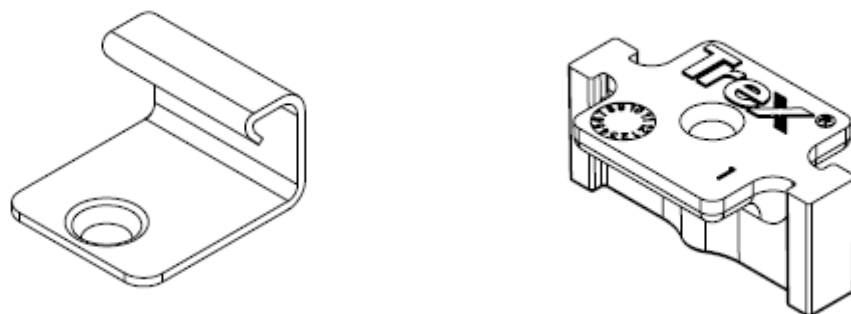

FIGURE 3 – START CLIP (LEFT) AND TREX HIDEAWAY FASTENER (RIGHT) FOR GROOVED EDGE DECK BOARDS
5.4 The grooved edge decking shall be attached at each joist, regardless of joist spacing with the Trex® Hideaway® Universal Hidden Fastener system using one #8 x 1-5/8 in. trim head stainless screw as supplied with the clips. See Figure 3.
5.5 The stainless steel Trex® Hideaway® Start Clips are attached to the ledger board at each joist location with one #8-10 x 1-5/8" square drive stainless screw. See Figure 3.